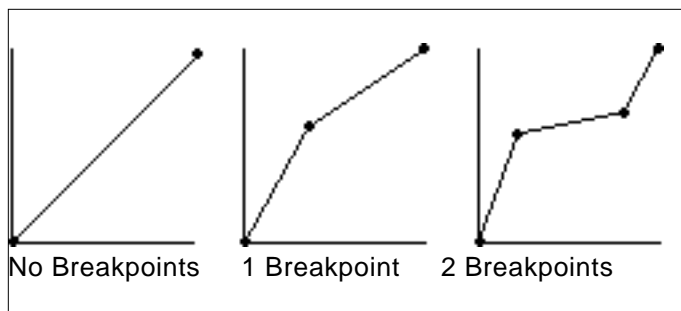

Figure 3. Piece-wise linear technique.
The D2000 uses a piece-wise linear technique to approximate nonlinear functions. Figure 3 shows this technique. The first step in programming a function is to establish the functions endpoints, as shown in figure 3a. This is accomplished by using the Minimum (MN) and Maximum (MX) commands. In cases where only linear scaling is necessary, the programming task is now complete. For nonlinear functions, the linear curve may be broken into segments by describing a breakpoint using the BreakPoint (BP) command. The breakpoint establishes an intersection between two linear segments. Figures 3b & 3c show the effect of breakpoints.